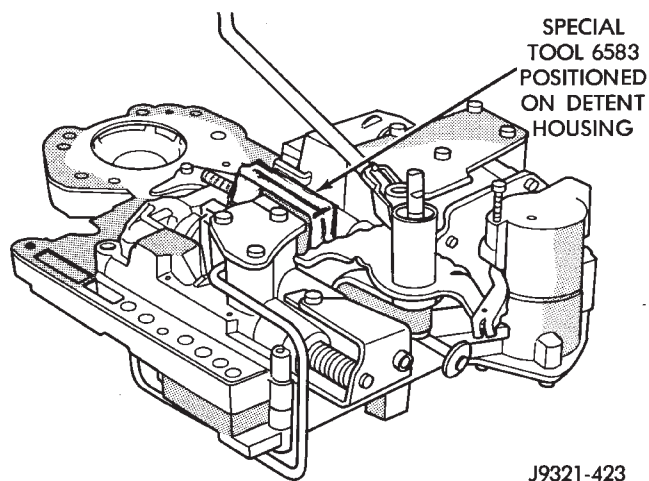

Fig. 101 Securing Detent Ball And Spring
(13) Secure detent ball and spring with Retainer Tool 6583 (Fig. 101).